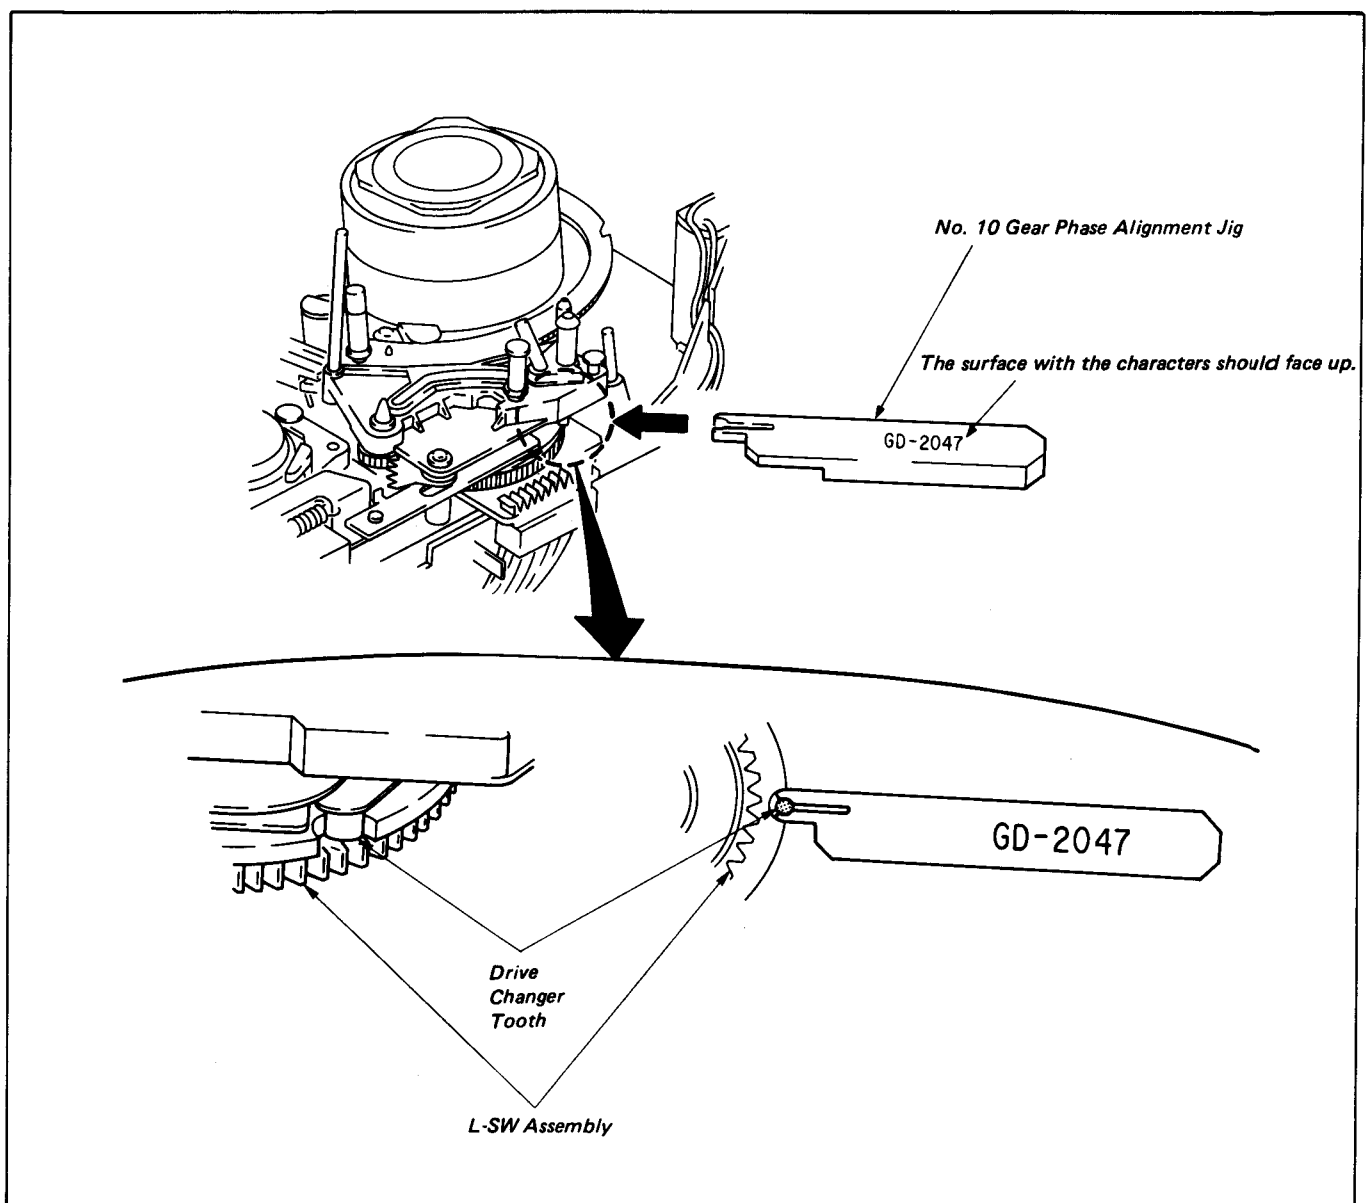

Fig. 8-14.
- 5) Check that the tooth of the drive changer is engaging the dent of the L-SW assembly and plug the No. 10 gear phase alignment jig (Ref. No. J-9) (See Fig. 8-14.)
- 6) Remount the No. 10 gear ⑤ and stop washer ④ pressing the No. 8 guide ⑫ to the ring stopper ③.